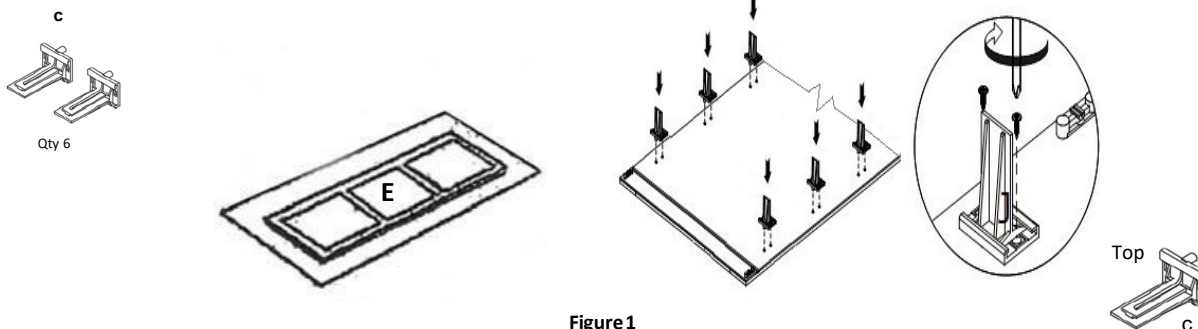

Figure 1
- Put the Back Panel (E) face up on a flat soft working surface to ensure that the surface is not scratched or damaged. Attach the drawer rail holders (c) to the pre-spotted areas using the supplied screws. (Figure 1)